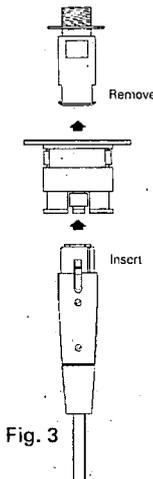
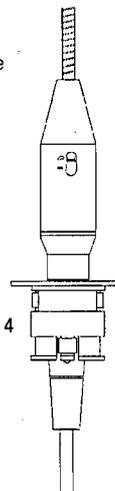

Fig. 3
Fig. 4
Plug-in Mount: Drill a 1 3/8" hole at the desired point in the mounting surface. Run the XLR connector of the microphone cable up through the hole. Remove the mounting stud from the AT8416 and insert the XLRF connector up through the chloroprene rings (Fig. 3). Secure the shock mount with the three screws provided (as in Fig. 2). Attach the XLRF connector to the microphone and work the connector body back down into the shock mount (Fig. 4).
1. Please refer to Fig. 3 (PZM-11) or Fig. 4 (PZM-11LL) and locate all the parts shown.